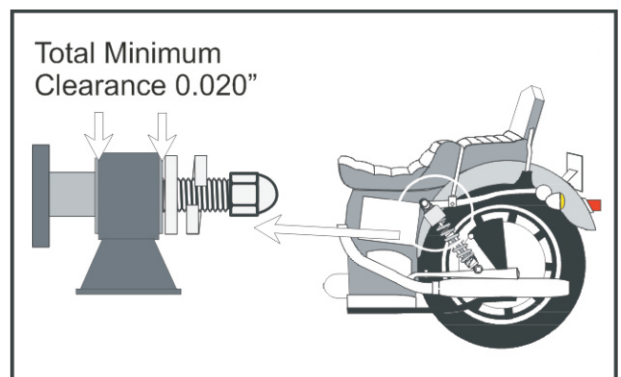

Fig 2
4. Reinstall any accessories removed in accord with their mounting instructions. Make sure accessories do not interfere with the shocks throughout their full travel. If any accessories bolt to the shock mounting points, a careful inspection must be made to insure that they do not bind the shocks in any way. Shock mounts should have a minimum clearance of .02" to insure the mounts are not binding. See Fig 2.